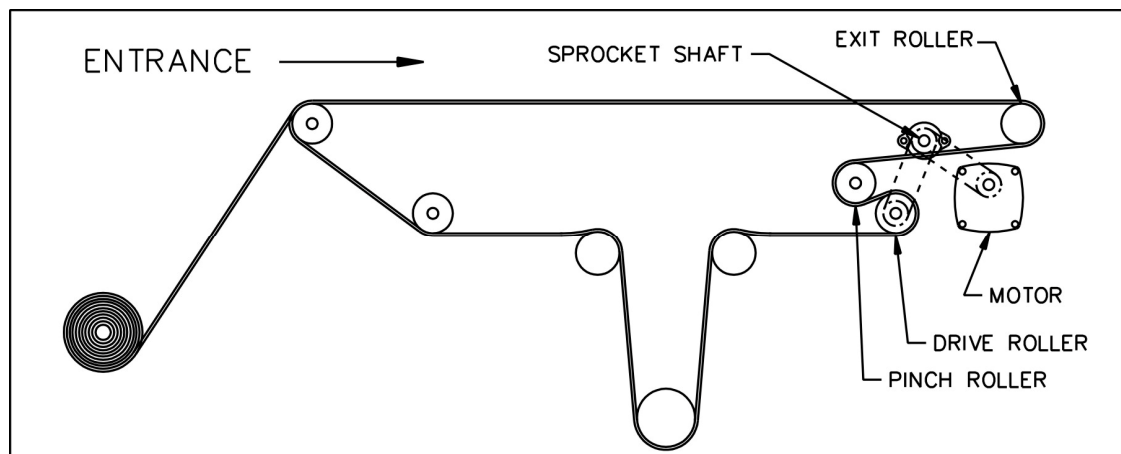

Figure 7-25 Belt Path
2. Attach the leading of the new belt to the end of the old belt (see Figure 7-25).
- When the belt has been pulled through the furnace chamber, detach it from the old belt and thread a pull wire through the rollers and drive drum, as shown in Figure 7-25 Belt Path. Pull the leading edge of the belt to the entrance and splice.